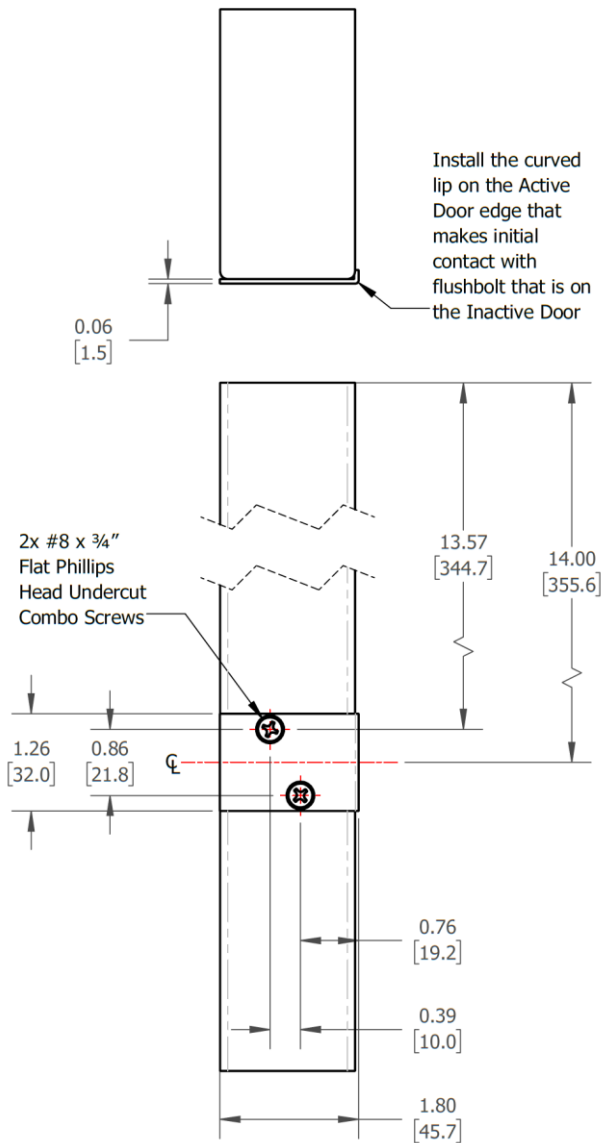

Figure 3: Active Door Strike
10. Using Figure 3 and 2ea of the #8 x 3/4" Flat Phillips Head Undercut Combo Screws, install the Active Door Strike